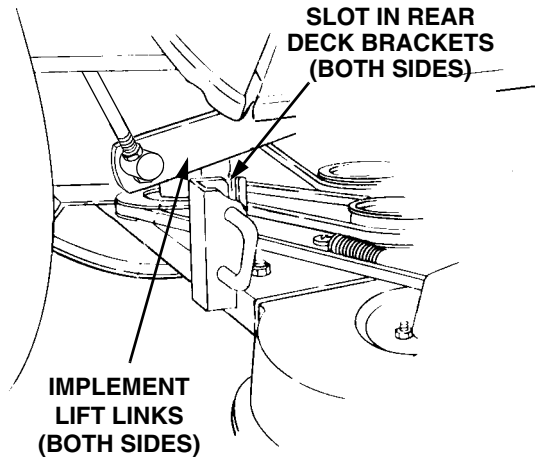

Figure 6-20
- Make sure the slot in both rear deck brackets aligns with the implement lift links on each side of the tractor (See Figure 6-20).